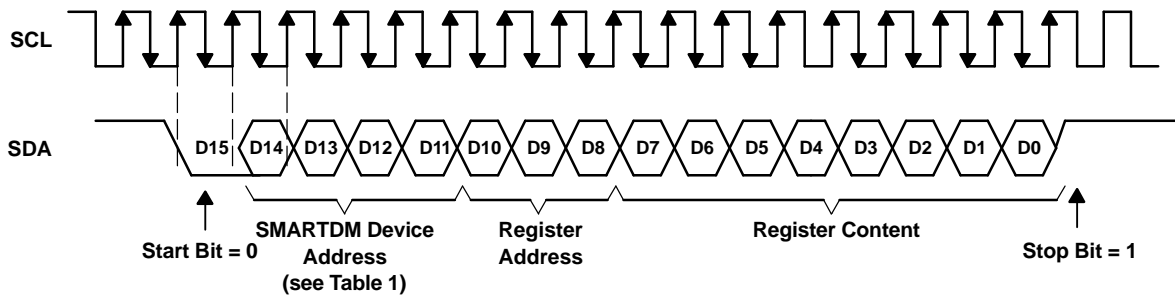

Figure 26. S2C Programming
The S2C is a write-only interface selected by programming bits D1-D0 of control register 2 to 01. The SDA input is normally in a high state, pulled low (START bit) to start the communication, and pulled high (STOP bit) after the transmission of the LSB. SCLK and FS must be active during register programming. Figure 26 shows the timing diagram of S2C. The S2C also supports a broadcast mode in which the same register of all devices in cascade is programmed in a single write. To use S2Cs broadcast mode, execute the following steps:
2. Write data to program control register as specified in Figure 26 with bits D14-D11 = XXXX (don't care).